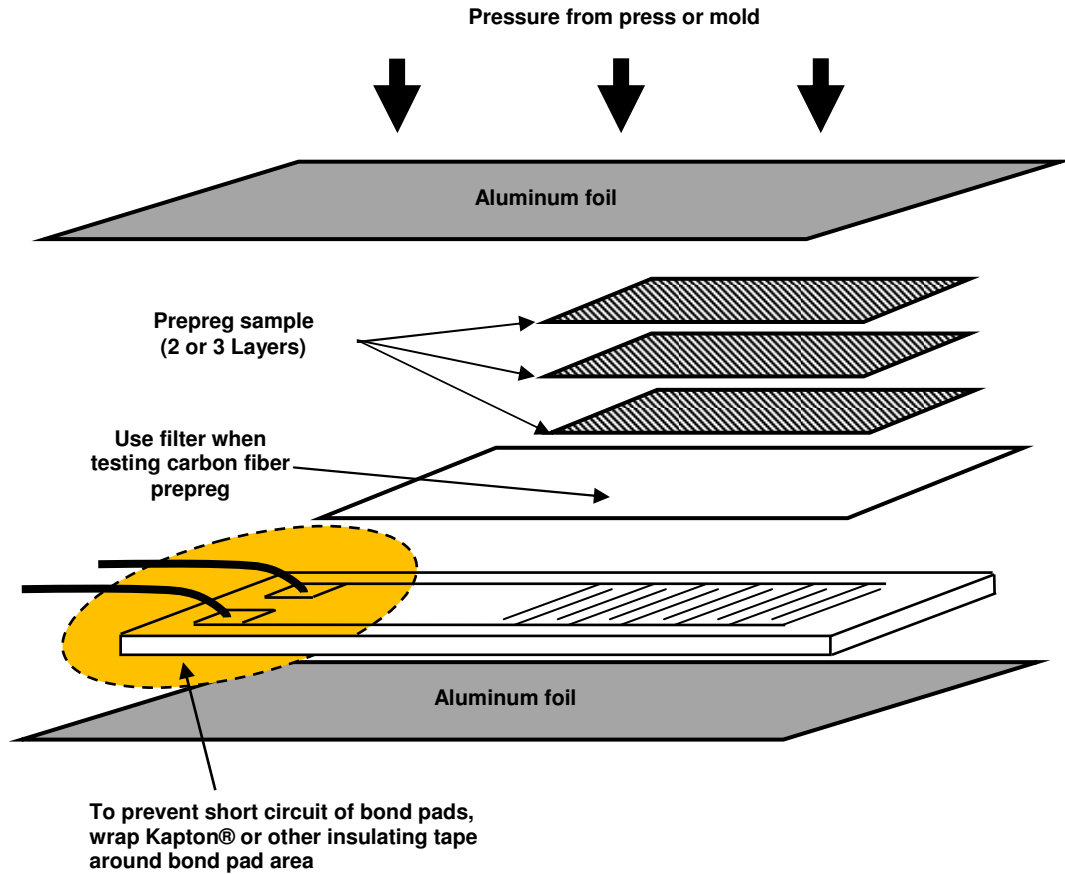

Figure 8-3
7. To ensure enough resin for good measurements with prepreg, stack at least two or three layers of prepreg on top of a sensor, as shown in Figure 8-3.
8. To prevent shorting of the electrodes, composite materials containing graphite or other conductive fibers require a filter between the sensor and sample, as shown in Figure 8-3.
9. To prevent the sample from adhering to press platens or mold surfaces, use a sheet of aluminum foil above and below the lay-up, as shown in Figure 8-3.